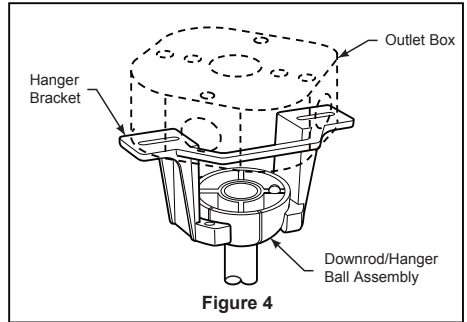

Figure 4
4. Lift away the motor coupler washer and upper housing cover from the motor assembly and set aside. (Figure 4)
4. Thread downrod into the downrod support on top of the motor. Install the clevis pin by aligning the holes in the downrod support with holes in the downrod. Secure clevis pin with hairpin clip. Install and tighten the two previously removed set screws with locking nuts in the downrod support. (Figure 4)
2. Carefully lift the fan and seat the downrod/hanger ball assembly onto the hanger bracket that was just attached to the outlet box. Be sure the groove in the ball is lined up with tab on the hanger bracket. (Figure 4) This fan is intended for standard and angled mounting options only. Closemount and flushmount options are not available. For angled ceilings, note the angle can be no more than 19°.
3. Connect green wires from hanger bracket, hanger ball and ground from supply using wire connector. Connect black wire from receiver unit marked "AC IN L" to black supply wire using wire connector. Connect white wire from receiver unit marked "AC IN N" to white supply wire using wire connector. Connect white wire from receiver unit marked "TO MOTOR N" to white wire from fan using wire connector supplied with receiver unit. Connect black wire from receiver unit marked "TO MOTOR L" to black wire from fan using wire connector supplied with receiver unit. Lastly, connect blue wire from receiver unit to the blue fan light wire using wire connector supplied with receiver unit. (Figure 4)
4. Connect the 2 single pin connectors from the LED assembly to the 2 single pin connectors from motor assembly. (Figure 4)
4. To set the remote code in the same positions as the receiver, use a small screwdriver or ball point pen (neither included) to slide dip switches firmly up or down. (Figure 4)